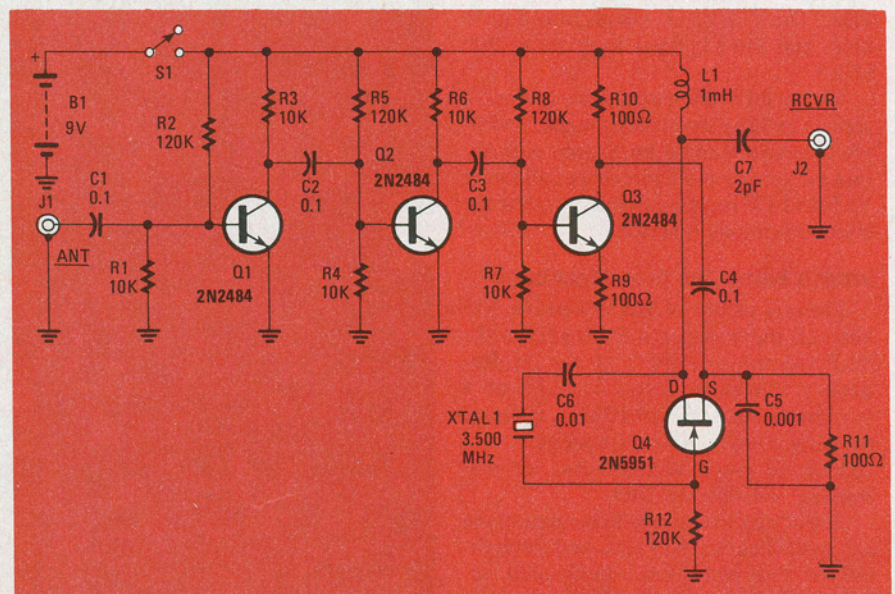

FIG. 2—COMPONENTS USED IN LOW-BAND CONVERTER are readily available. Crystal may be ordered from companies advertising at back of magazine.
Figure 2 shows the a schematic diagram for a low-band converter. Three stages of broadband amplification (Q1, Q2, and Q3) are used. The crystal oscillator/mixer, Q4, provides an amplitude-modulated (AM) signal, with the carrier at 3.500 MHz. That signal is fed to the antenna input of the receiver. The VLF and LF signals appear as sidebands above and below the carrier. The upper sideband (3.510 to 4.035 MHz) is easier to use because the signal frequency is easier to determine—just subtract 3.500 MHz from the receiver dial read-out. (If you use the lower sideband the reception will be just as good, but the band will come out "upside down" in the receiver, and frequency determination will be tricky.)